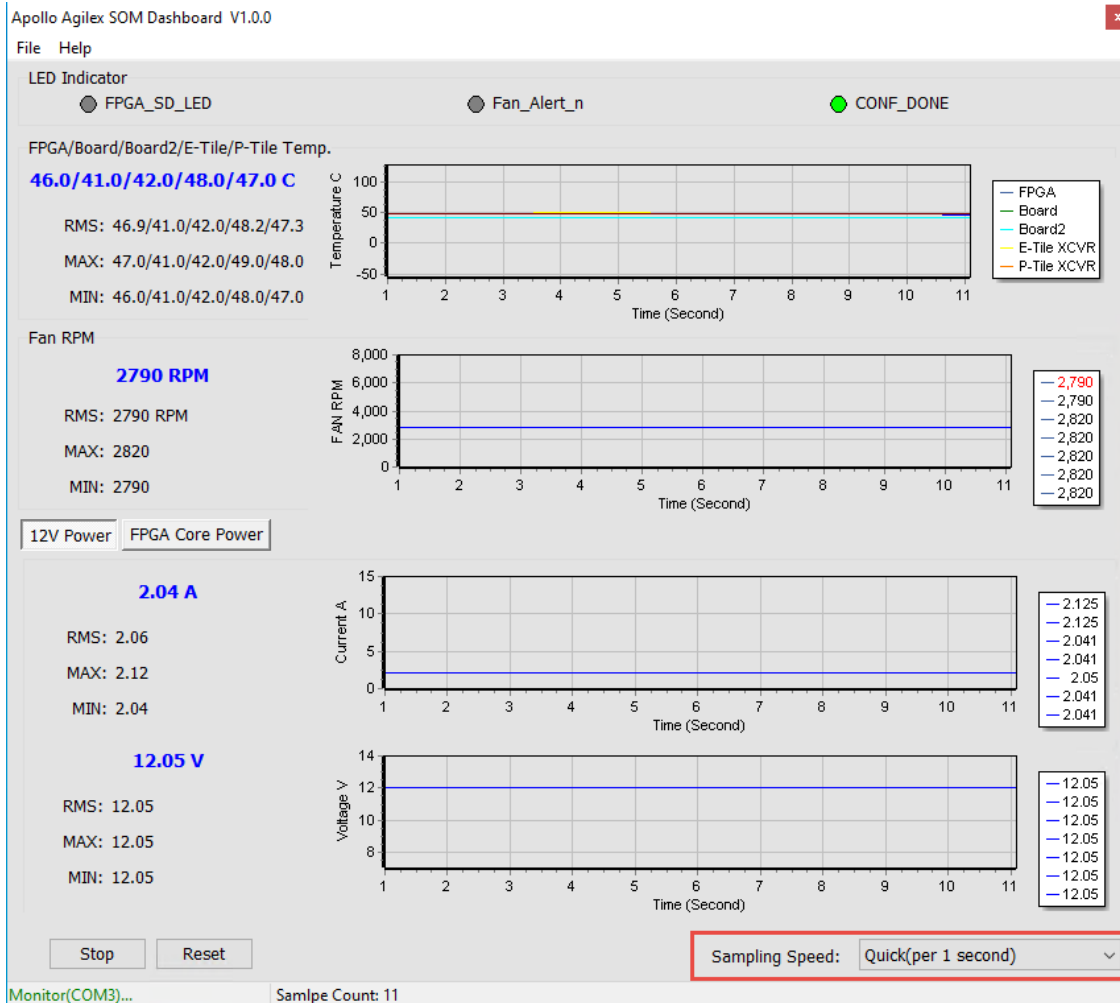
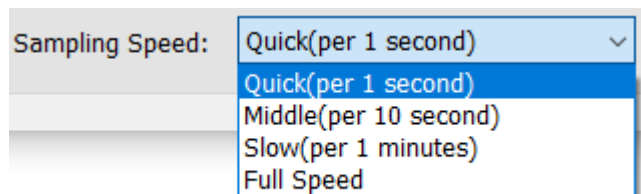

Figure 3-9 Sampling Speed section
Figure 3-10 Options of Sampling Speed
- **Sampling Speed:** It can change interval time that the Dashboard GUI sample the board status. Users can adjust it to 1s/10s/1min/Full Speed (0.1s) to sample the board status, as shown in Figure 3-9 and Figure 3-10.